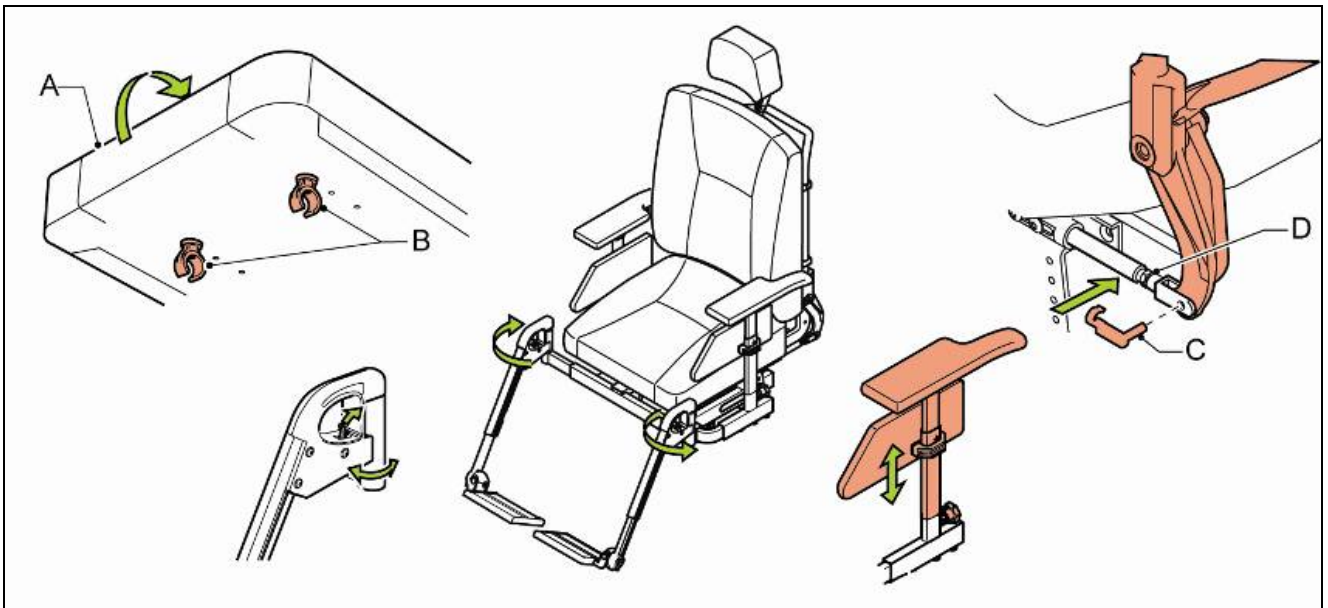

Figure 6.1
When replacing the seat, the clips (B in figure 6.1) must click around the round bar in the frame. Check if the seat has been clicked into place securely.
1. Flip the lock clip (C in figure 6.1) off the adjusting bar (D in figure 6.1).